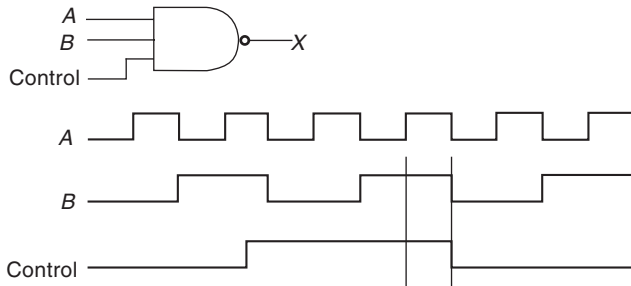

Fig. 4.97
39. Sketch the output waveform at X for the NAND gate shown with the given input waveforms at A , B , and control. (See Fig. 4.97)